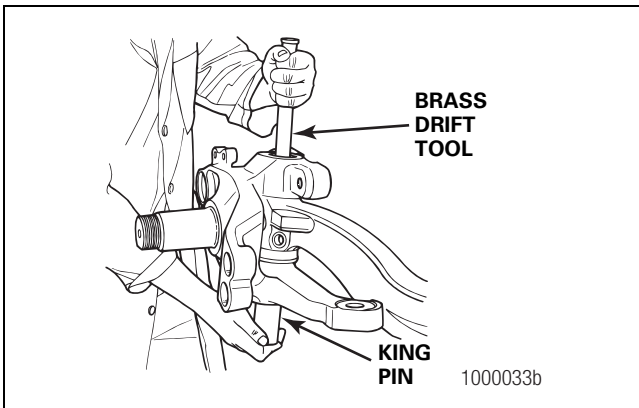

**Figure 16**
- A. Loosen the draw key nut. Use a brass drift and a hammer to hit the end of the draw key. Figure 16.